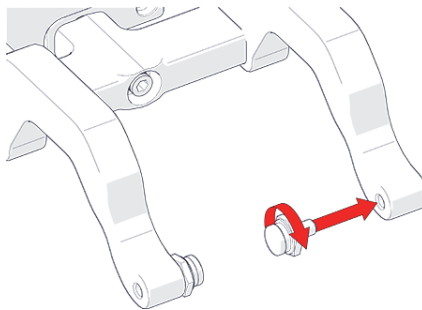

Figure 3-36 Pivot buttons
- ◆ Use the supplied 3/8 inch wrench (see Figure i-3 on page 24) to remove and install pivot buttons (see Figure 3-36 on page 60).